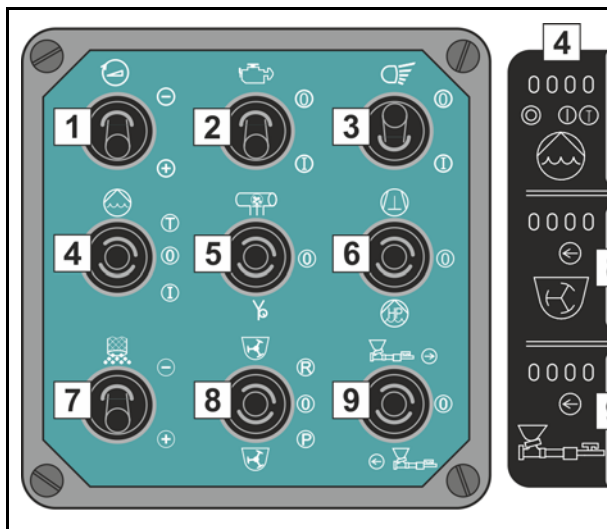

Fig. 479 Local control keypad
- If you switch on the HP pump using the local control (6)  (**Fig. 479**), the pump will draw its water from your machine's water case. If the trigger is not actuated, the HP pump cannot pump water to the spray lance.